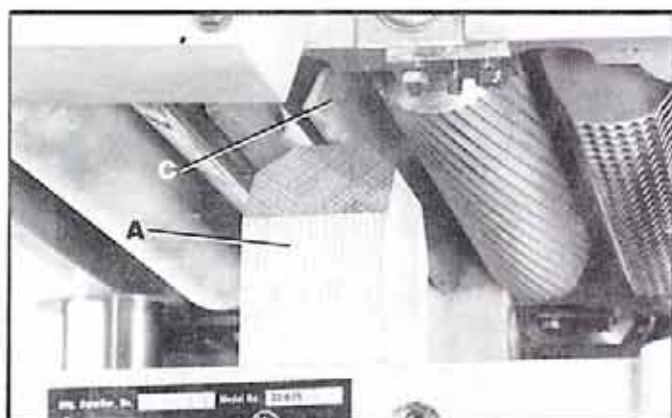

Fig. 36
4. Place the gage block (A) Fig. 36, minus the feeler gage under one end of the chipbreaker (C), as shown. The bottom of the chipbreaker (C) should just touch the top of the gage block, as shown.